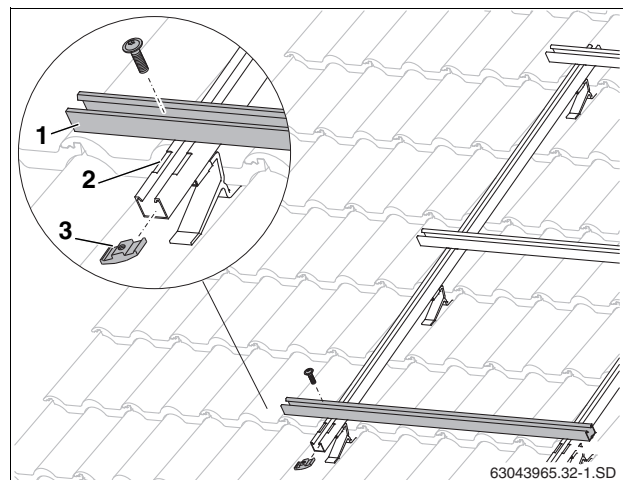

Fig. 27 Installing horizontal rails
- Place the horizontal rails (Fig. 27, [1]) into the indentations (Fig. 27, [2]) on the vertical rails and loosely fasten using screw and counter plate (Fig. 27, [3]) so that the rails can still be aligned.